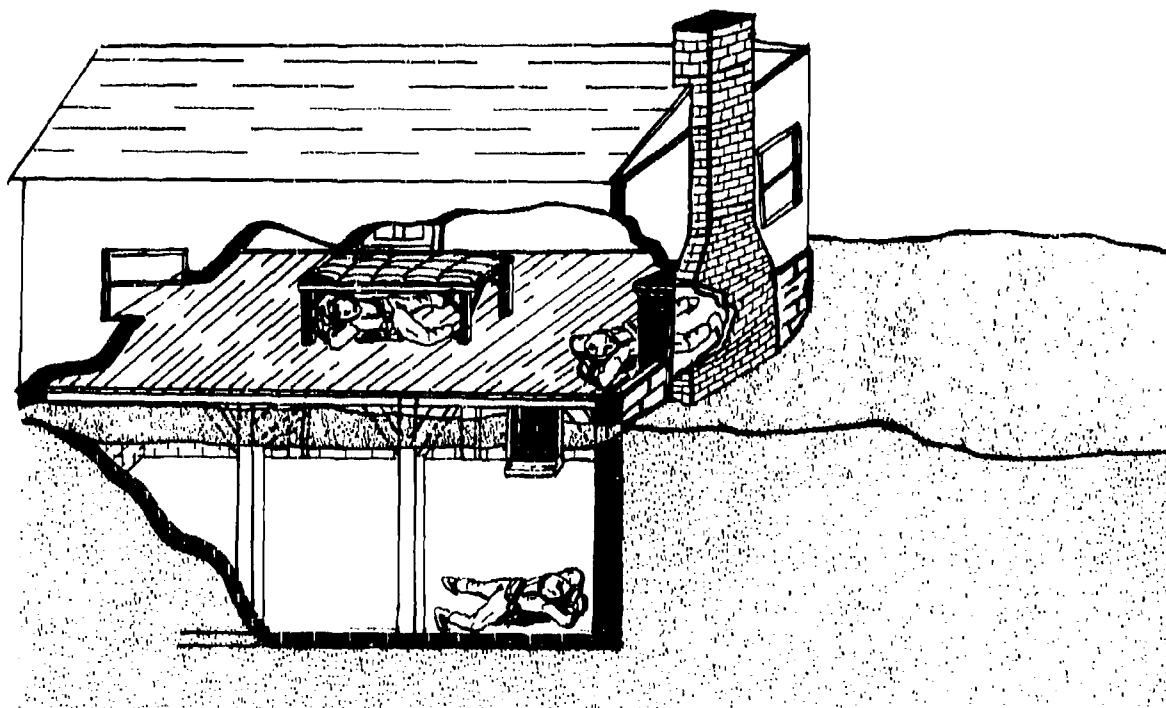

FIGURE 14. SEEKING SHELTER IN BUILDINGS.
--"Position inside of the building can make a difference." On aboveground floors the greatest protection from both initial and residual radiation is achieved in the center of the building, whereas below ground the greatest protection is achieved in the corners of the building. In either case the dose to your body in a prone position would be about one-half of the dose when standing. The lesson here is to seek shelter in an underground structure and lie in a corner or, if an underground shelter is not available, lie down in the center of a shelter under a sturdy table, unless significant radiation shielding or structural strength is available at some other location (see figure 14) such as inside a fireplace, under a stairway, or in a bathroom where the plumbing and relatively close spacing of walls might provide increased structural strength.